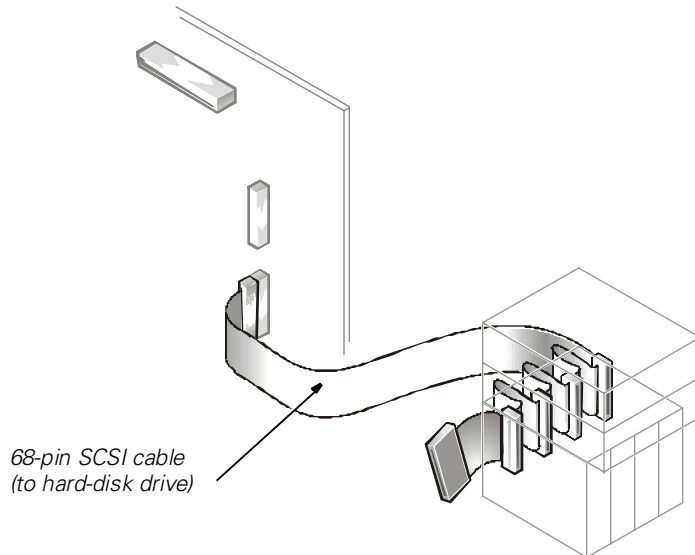

Figure 9-11. SCSI Cable
- The other connectors on the cable are used for attaching up to four SCSI hard-disk drives in the internal drive bays (see Figure 9-11). When the integrated SCSI controller is not being used for hard-disk drives, it can be attached to a SCSI tape drive.